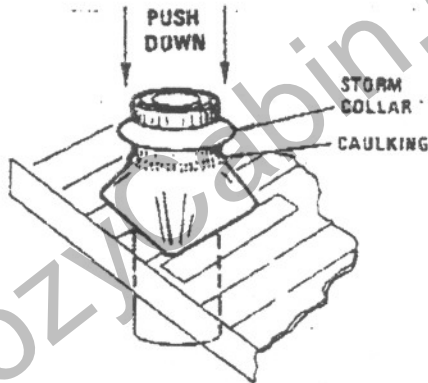

Figure 12
Step 8 Slide flashing under shingles into position and re-nail top and side shingles. DO NOT nail through lower flange of flashing. If desirable, cover sides and top of flashing with salvaged shingles (Figure 12).
Step 9 Install storm collar on triple-wall pipe. Apply waterproof caulking around flashing where collar will be seated, and push storm collar down securely on sealer and flashing (Figure 12).